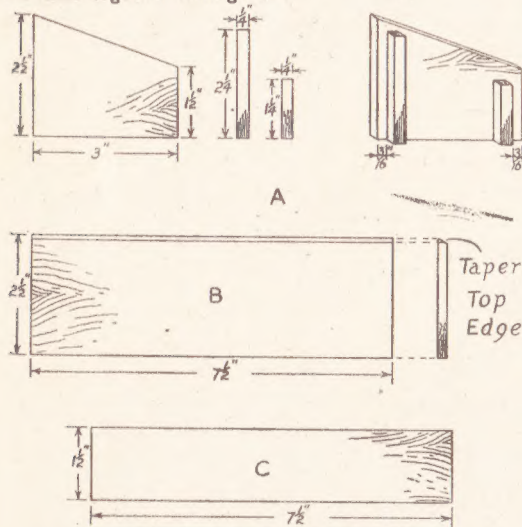

Fig. 3—Details of the sides, back and front
The front for the box is simply a piece of plywood cut  $7\frac{1}{2}$  ins. long by  $1\frac{1}{2}$  ins. wide, as indicated in (C) Fig. 3. The parts thus cut are well smoothed up with glasspaper, and then fixed together with glue and allowed to set hard, after which all surplus glue showing can be carefully scraped off.
Commence on the sides, details of which are given in (A) Fig. 3. Cut two pieces 3 ins. long by  $2\frac{1}{2}$  ins., tapering the top edge down to  $1\frac{1}{2}$  ins., as clearly indicated. Cut two pieces  $2\frac{1}{2}$  ins. by  $\frac{1}{2}$  in., and two pieces  $1\frac{1}{2}$  ins. by  $\frac{1}{2}$  in., and glue